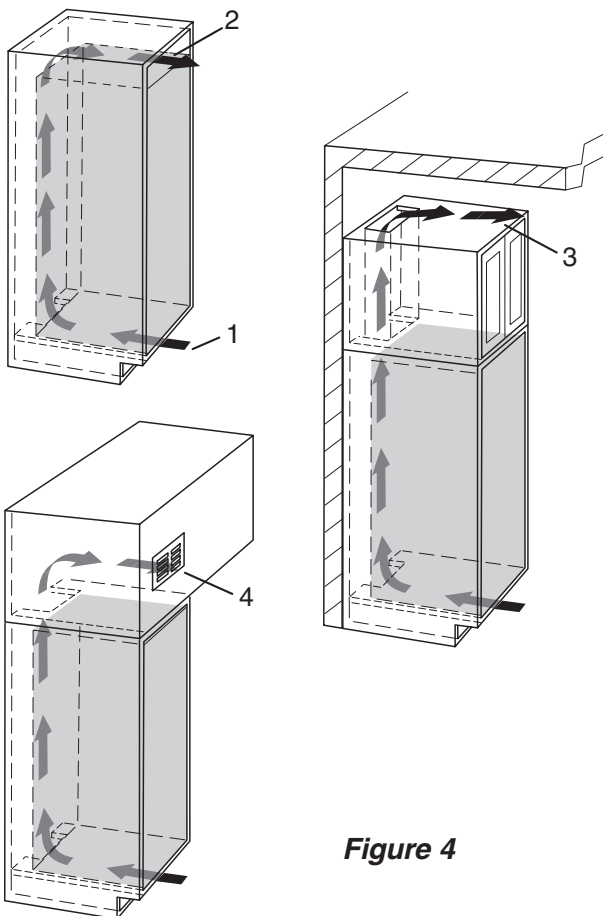

Figure 4
- There must be a ventilation space at least 31 in.² (200 cm²) at the airflow inlet (**Fig. 4, 1**) **and** at the airflow outlet (**Fig. 4, 2**).
- The top ventilation space can be either directly over the appliance (**Fig. 4, 2**) or next to the ceiling over a cabinet (**Fig. 4, 3**), or through a vent installed in a soffit (**Fig. 4, 4**).